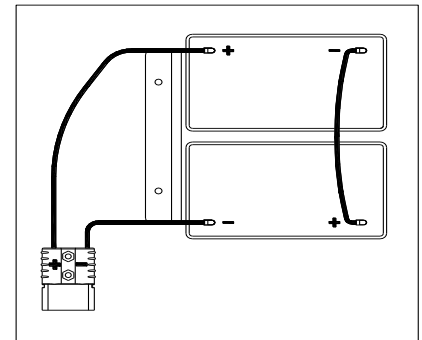

Figure 3
The machine requires two 12V batteries, connecting according to Figure 3.
6. Open the recovery tank cover (4) and check the recovery tank (3) is empty, otherwise, empty it with the drain hose (15).
7. Close the recovery tank cover (4).
8. Overturn the recovery tank (3) carefully.
10. Route and install the battery cable as shown in (Figure 3), then carefully tighten the nut on each battery terminal.
12. Carefully lower the recovery tank (3).